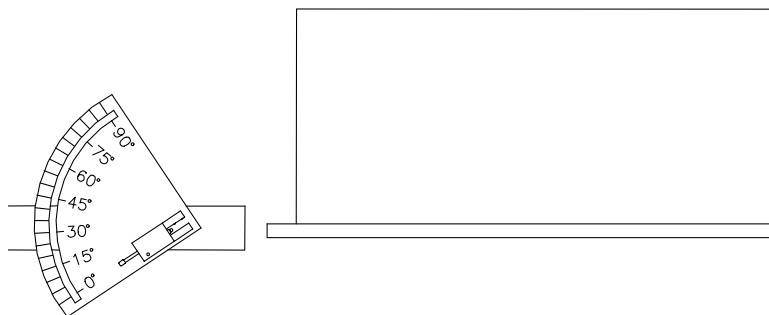

Fig. 2. Projectile motion apparatus and landing pad.
1. Before starting the measurements, familiarize yourself with the apparatus. The central feature of the setup is a “spring-loaded gun” mounted on a plate marked in degrees, as shown in Fig. 2. The plate can be rotated around a horizontal axis to set the initial direction of motion: a desired angle can be set by loosening the knurled screw attached to the plate, aligning the required angle mark with the horizontal mark on the stand and then tightening the screw. The initial speed of the projectile (a steel ball) can be set to three different values by drawing back the spring-loaded firing pin until it is locked in one of the three preset positions. Notice the cable-release trigger and make sure that its plunger is fully withdrawn (this is achieved by pressing on the small ring near the end of the trigger cable), then try drawing back the firing pin and listen to the three distinct “clicks” corresponding to the three positions. Unfortunately, sometimes the cable-release becomes disconnected, something you want to avoid, because it is difficult to reconnect it! Press the trigger’s plunger and the pin will “fire”. Now you can practice launching the projectile: try different angles and different velocities to get a feeling of which